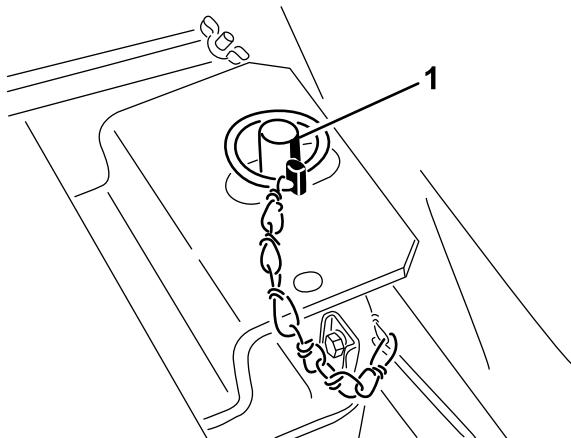

Figure 11
6. Disengage seat support rod and pivot downward. Pivot seat down and push lynch pin through seat latch stud. Flip wire end of pin over latch stud (Figure 11).
8. Disengage seat support rod and pivot downward. Pivot seat down and push lynch pin through seat latch stud. Flip wire end of pin over latch stud (Figure 11).